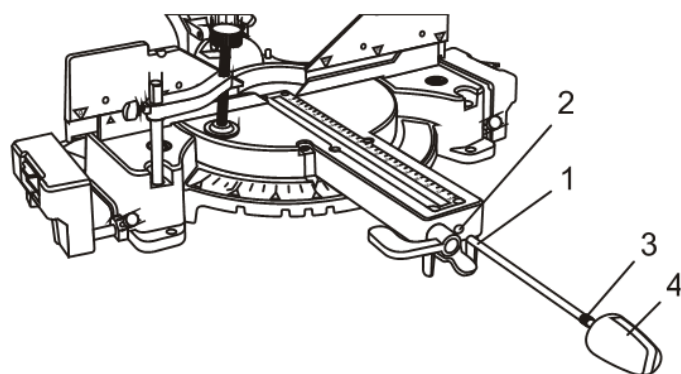

Fig. 3
1. Insert the unthreaded end of the locking rod (1) into the threaded hole in the mitre handle (2) (Fig. 3).
2. Slide the locking rod into the mitre handle until the threaded portion of the rod (3) can be threaded into the mitre handle.